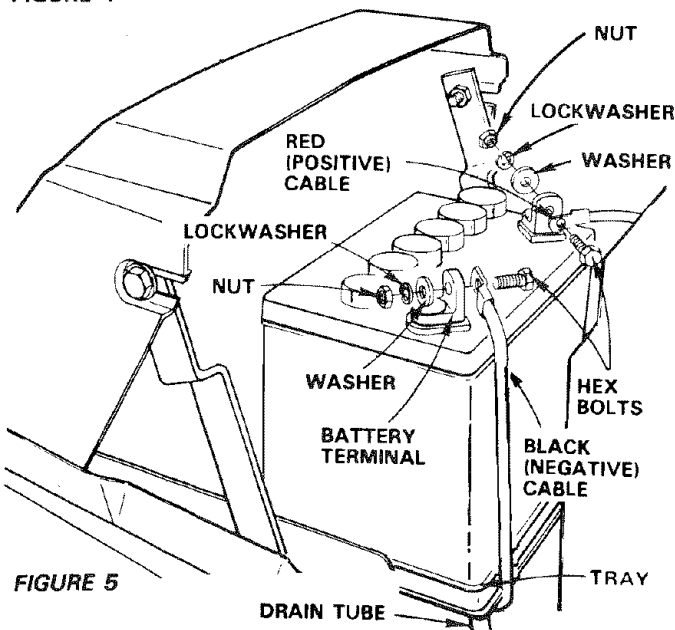

FIGURE 5
b. Remove tape from plastic tray. Make sure drain tube (Fig. 5) is fastened to drain hole in battery tray and battery tray is positioned in hole of battery support.
c. Place battery in plastic tray (Battery terminals to front of tractor)(Fig. 5).